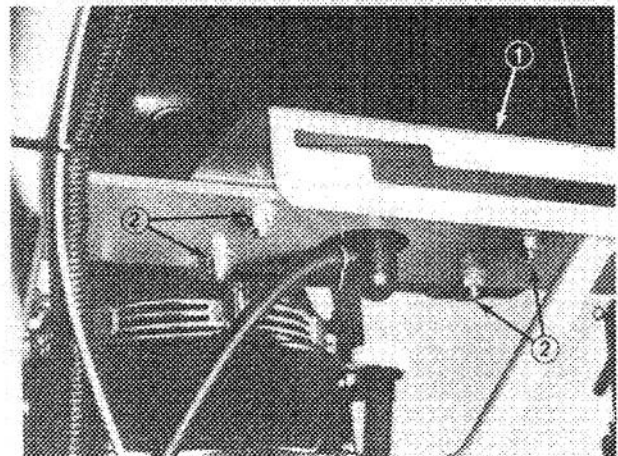

Figure 23
1. Loosen four locknuts securing control panel to rear frame (Fig. 23).